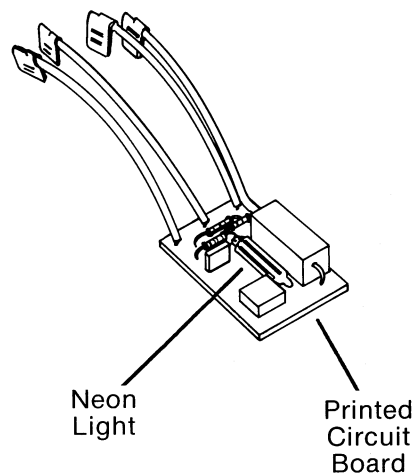

FIG. 18
3. Locate and observe the three major components of the system. Note the neon light on the printed circuit board. (Fig. 18) The neon light can be observed by carefully looking into the AIR INTAKE end of the heater on the lower right side while the motor is running.